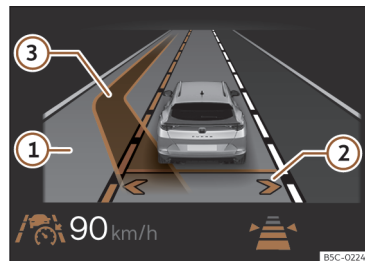

Fig. 150 On the instrument cluster screen: lane change assist display (schematic representation).
This activates the lane assist. The arrows of your own lane on the instrument cluster display are grey >>> **Fig. 150** ②
cluster display next to the driver's own lane. The arrow on the corresponding side of the lane is displayed in white >>> **Fig. 150** ②.